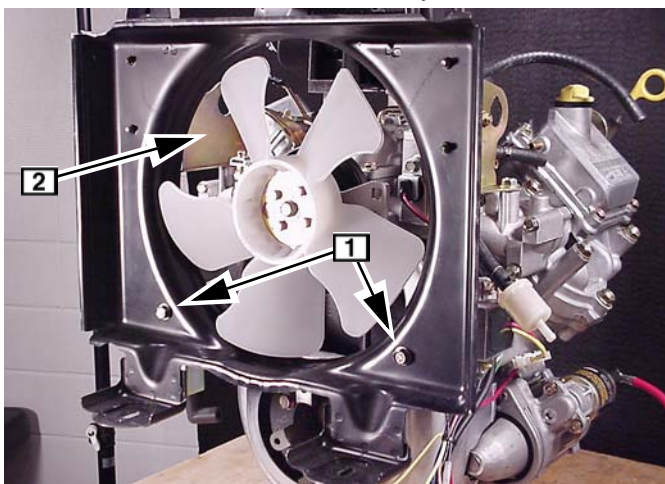

Fig. 38
1. Remove lower fan shroud screws **1** and upper fan bracket screws at intake manifold **2**, Fig. 38.